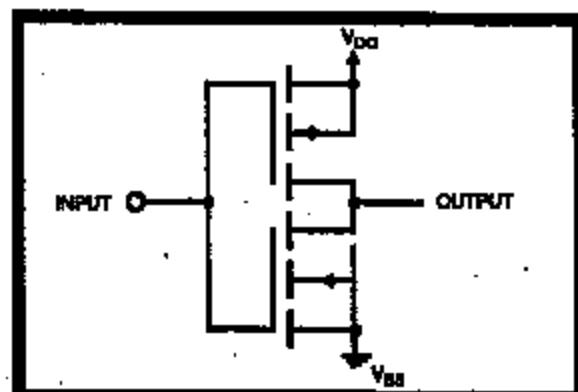

Figure 4 - Typical Output Circuit
Fig. 4: Electrical scheme showing connections between the parallel bipolar transistors, Cu-heatsink and Ag-filled epoxy glue that together form the thyristor between frontside and backside of the die.
Unfortunately, it appears that this packaging method results in the formation of a diode between the n-type Ag-filled epoxy glue layer and the low doped p⁺ substrate, see fig. 4 and 6. Note that diode does not behave like a real Ag-Si Schottky diode. Fig. 6 shows that the diode forward voltage is >0.7V. Given the barrier height for an Ag to p-type silicon metal-semiconductor contact of 0.54 eV at 23°C [2], a good Ag-Si(p-type) Schottky diode should exhibit a much lower forward voltage than observed here. Furthermore, we find that the n-type
Ag-filled glue layer also can act as the emitter of a parasitic NPN transistor (T4 in fig. 4) between the frontside and backside of the die where the p⁺ substrate acts as the base and the deep buried-N (NND) isolation of the V-PNP transistor as collector, see fig. 4. Fig. 6 shows the bipolar gain of this transistor as a function of the emitter current for a small test structure. Despite the very thick base (~375 μm), the NPN gain h_{FE} ranges from 10^{-4} to 10^{-2} at 25°C. Note that the h_{FE} scales with the collector area; in real circuits h_{FE} values up to 0.5 have been observed. Note that both the diode and the NPN characteristics are not well controlled as these are influenced by many parameters as e.g. the surface roughness of the backside of the silicon die, the thickness of native oxide layers on the silicon backside, the electron minority carrier lifetime in the p⁺ substrate, the thickness of the epoxy glue, the distribution and concentration of Ag-filler in the epoxy glue. As a result, a large spread is observed in both the diode I(V) curves, see fig. 6, as well as the NPN current gain (h_{FE}) characteristics, see fig. 7, depending on the specific process flow. The fact that the NPN gain in fig. 7 increases with injected current is characteristic for metal-semiconductor junctions where the ratio of minority injection (electrons in this case) increases with current due to the enhancement of the drift-field component, which becomes much larger than the diffusion current [2].
As shown in fig. 4, the parasitic NPN transistor T4 forms in combination with the V-PNP transistor T1 a thyristor between the frontside and the backside of the die. As the parasitic V-PNP has high gain, the thyristor loop gain is larger than 1 and thus latchup can occur.
A typical ISO-CMOS output driver contains one N-channel MOSFET with its source tied to V_{SS} and one P-channel MOSFET with its source tied to V_{DD} . The drains of the two transistors are connected together to form the output and the gates are commoned to form the input (Fig. 4). The fabrication of these transistors in close proximity results in the formation of a parasitic SCR connected directly across the power supply rails. When triggered, this SCR presents a low impedance to the power supply causing excessive current to flow. This situation is potentially destructive, resulting in damage to bond wires or metal supply tracks on the die due to localized overheating. The SCR is formed as follows. A vertical NPN transistor results from the fabrication of the N-channel device. The N-substrate serves as the collector and is biased at V_{DD} . The P-well acts as the base and the source and drain N-diffusions are the emitters of the transistor. One emitter is tied to V_{SS} and the other to the output. A wide base lateral PNP transistor is formed when a P-channel device is located close to a N-channel transistor. The P-channel source and